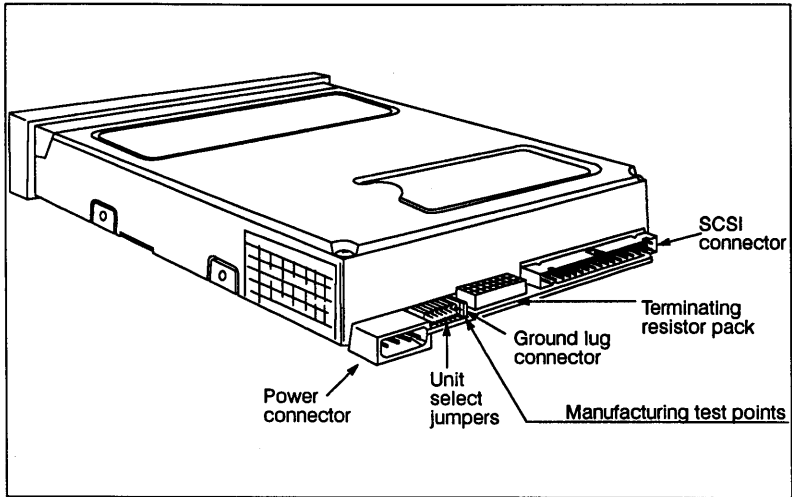

Figure 1-1. SQ555 Physical Interface
- a. Identify the power connector, unit select jumpers, manufacturing test points, ground lug connector, terminating resistor, and SCSI connector on the back of the SQ555 disk drive. See FIGURE 1-1.